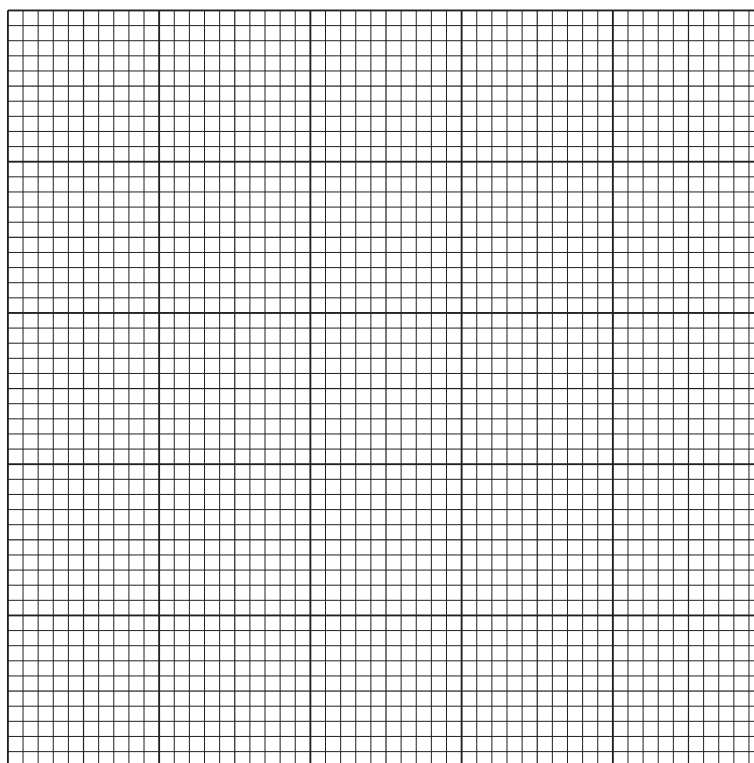

Fig. 1.6
- (i) Draw a bar chart of the data in Table 1.3 on the grid in Fig. 1.6.